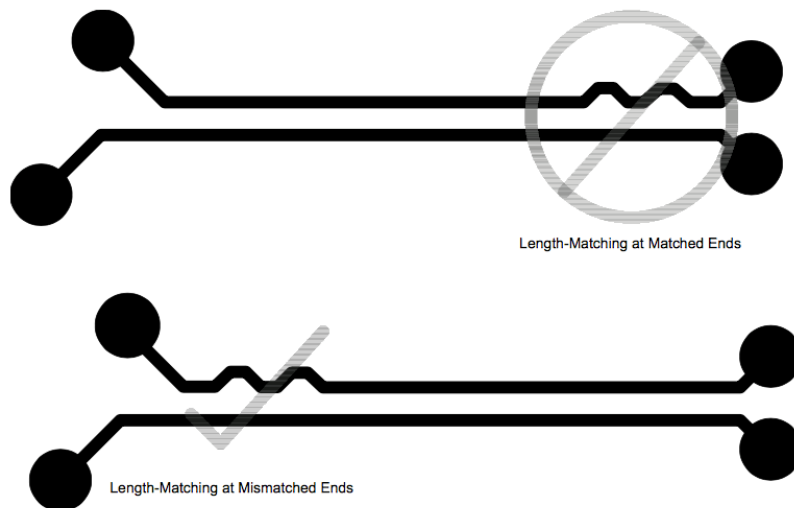

Figure 91 USB Length Matching (©Texas Instruments)
- If the trace lengths are mismatched, try to match them at the mismatched end and not on the matched end using serpentine traces. When using serpentine traces, the please be careful that the width between the bends is greater than 3x the trace width and that all angles are at least 135 degrees. An example for this is shown in Figure 91.